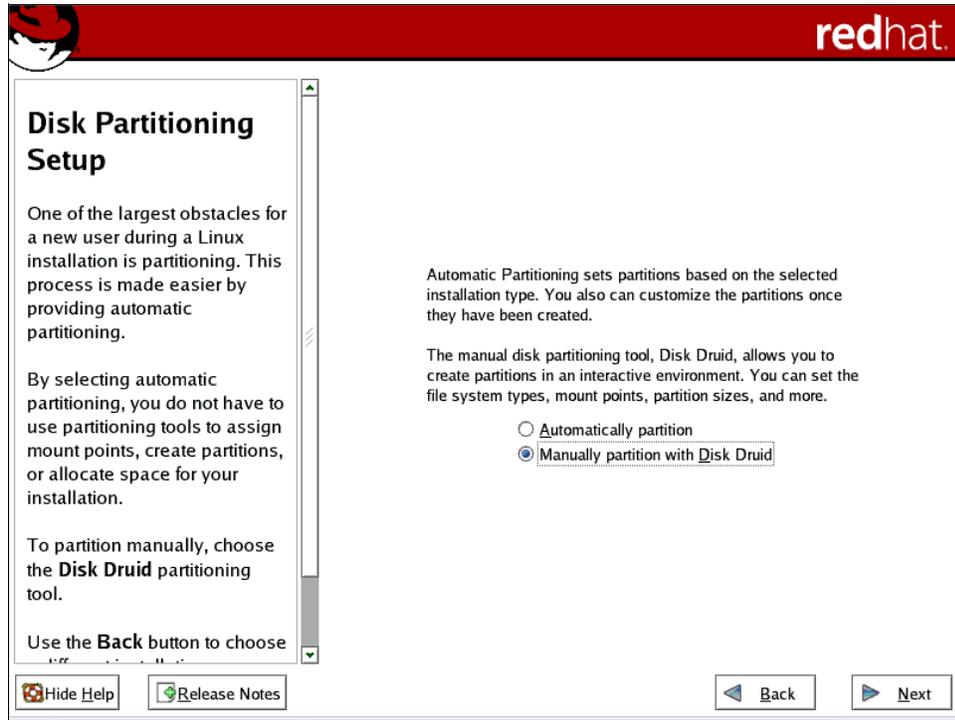

Figure 10-62 Disk Partitioning Setup
- When you reach the Disk Partitioning Setup panel, select **Automatically Partition** if you do not have experience in configuring Linux partitions, or select **Manually partition with Disk Druid** if you know how to configure Linux partitions, as shown in Figure 10-62.